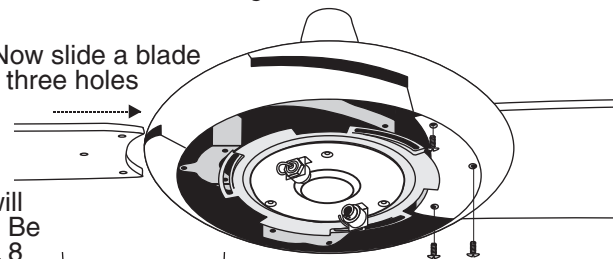

FIG. 8
B.1. Note the side of the blade you want to show. Now slide a blade into one of the slots in the motor housing. The three holes should line up easily. See Left side of Fig. 8
2. Using the 3/16"-32x3/8" blade screws, three of each per blade, secure blade to motor. Repeat this procedure with the rest of the blades. You will have at least one screw left over; this is a spare. Be sure all of the screws are tight. Right side of Fig. 8